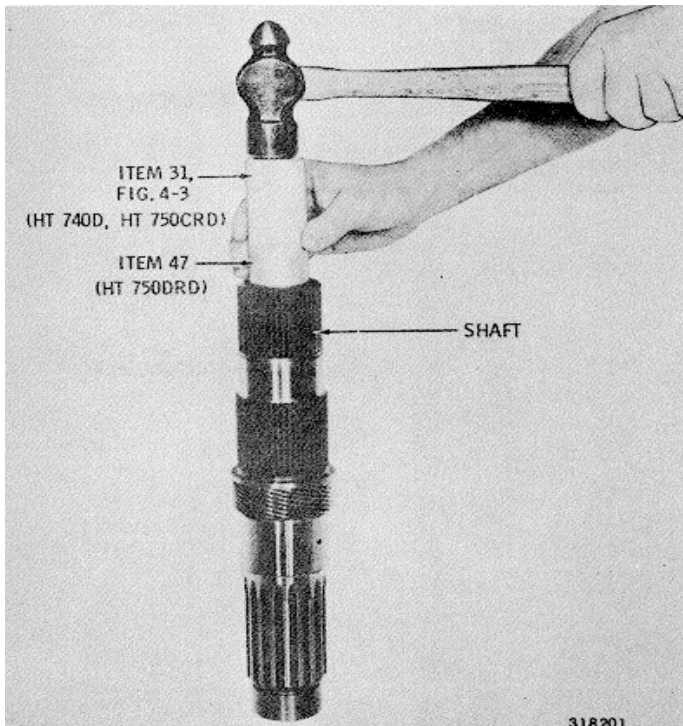

Fig. 6-59. Installing output shaft bushing
(10) If the bushing was removed from the front of the output shaft, install a new bushing (Fig. 6-59).
(13) Coat the outer circumference of the output shaft oil seal with nonhardening sealer. Install the oil seal, spring-loaded lip first. Use installer 26 and driver handle 28 (Fig. 4-3) to locate the rear of the seal 0.60 to 0.70 inch (15.2 to 17.8 mm) in front of the parking brake mounting surface plane (fig. 6-59).